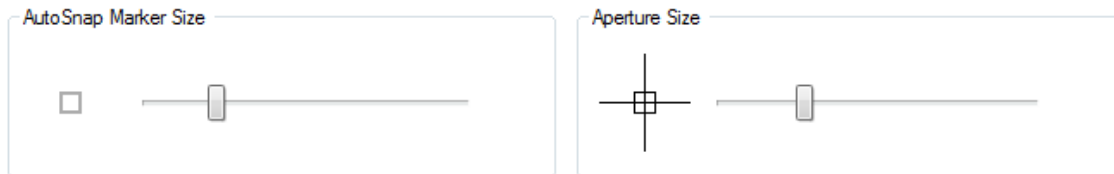

Figure Step 37
Step 37 Set the AutoSNAP Marker Size and the Aperture Size to approximately the sizes shown in the figures. If required, you can adjust these sizes, when required, as you work your way through the eBook. (Figure Step 37)